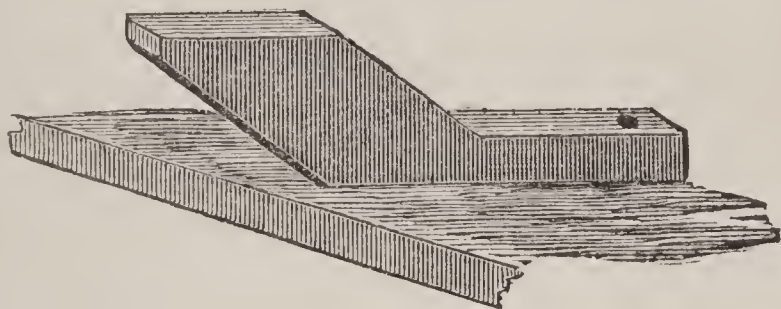

FIGURE 22.
*The Gun Brace.*—A gun brace, as shown in Fig. 22, is made from a piece of inch and a half or two inch plank, with its upper edge of a height about